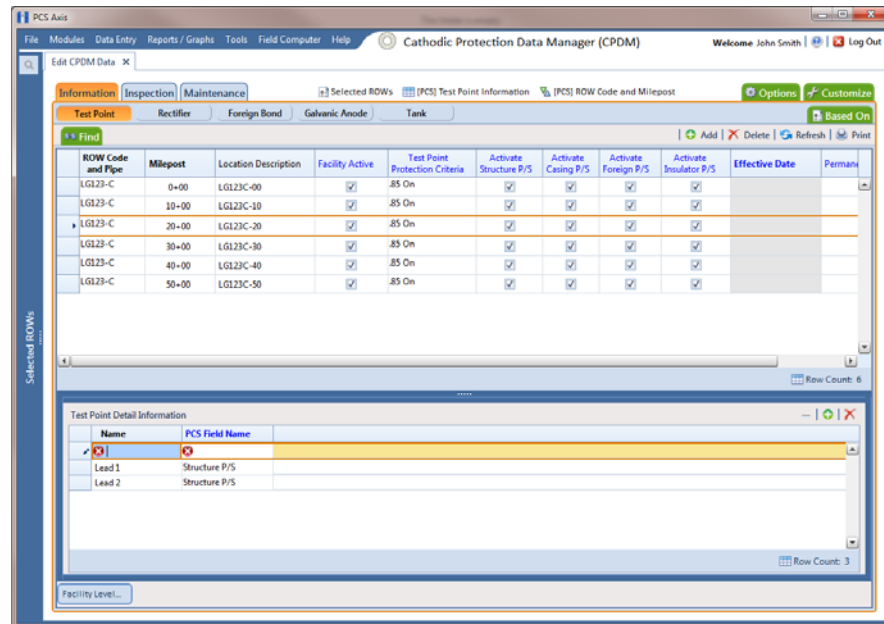

Figure 7-97. Test Point Detail Information
- a Select a test point record in the *Information* grid. Then click **+** **Add** in the mini-grid to add an empty row of records. Fields requiring information include a **✖** red icon, such as *Name* and *PCS Field Name* shown in the following example (Figure 7-97).